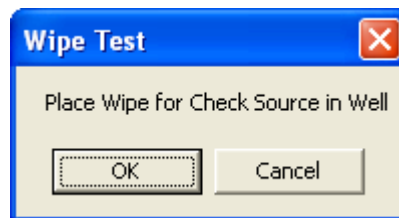

Figure 8-20
- To begin counting the wipe location, click the **Count** button or press *Alt+C*. Figure 8-20 will appear (the location *Check Source* is shown in the example).